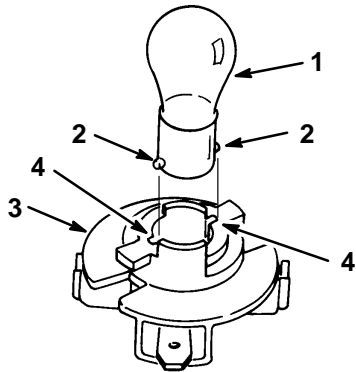

Figure 54
4. Push and rotate the bulb counterclockwise until it stops (approx. 1/4 turn) and remove the bulb from the bulb holder (Fig. 54).
1. The bulb has metal pins on the side of its base. Align the pins with the slots in the bulb holder and insert the base into the holder (Fig. 54). Push and rotate the bulb clockwise until it stops.